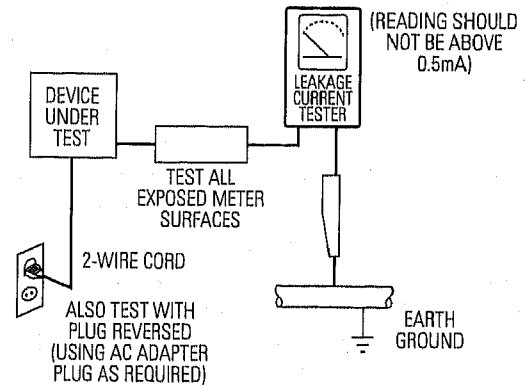

Fig. 1-1 AC Leakage Test
(1) Be sure that no built-in protective devices are defective or have been defeated during servicing. (1) Protective shields are provided to protect both the technician and the customer. Correctly replace all missing protective shields, including any removed for servicing convenience. (2) When reinstalling the chassis and/or other assembly in the cabinet, be sure to put back in place all protective devices, including, but not limited to, nonmetallic control knobs, insulating fish papers, adjustment and compartment covers/shields, and isolation resistor/capacitor networks. Do not operate this instrument or permit it to be operated without all protective devices correctly installed and functioning.
(2) Be sure that there are no cabinet openings through which adults or children might be able to insert their fingers and contact a hazardous voltage. Such openings include, but are not limited to, excessively wide cabinet ventilation slots, and an improperly fitted and/or incorrectly secured cabinet back cover.
(3) Leakage Current Hot Check-With the instrument completely reassembled, plug the AC line cord directly into a 110-240V AC outlet. (Do not use an isolation transformer during this test.) Use a leakage current tester or a metering system that complies with American National Standards Institute (ANSI) C101.1 Leakage Current for Appliances and Underwriters Laboratories (UL) 1270 (40.7). With the instrument's AC switch first in the ON position and then in the OFF position, measure from a known earth ground (metal water pipe, conduit, etc.) to all exposed metal parts of the instrument (antennas, handle brackets, metal cabinets, screwheads, metallic overlays, control shafts, etc.), especially any exposed metal parts that offer an electrical return path to the chassis. Any current measured must not exceed 0.5mA. Reverse the instrument power cord plug in the outlet and repeat the test. See Fig. 1-1.